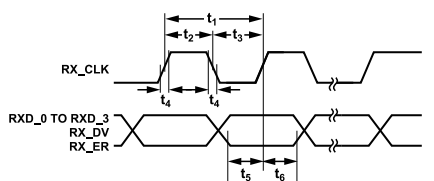

Figure 6. MII Receive Timing
Table 8. MII 10BASE-Te Receive Timing (See Figure 6)
**Table 8. MII 10BASE-Te Receive Timing (See Figure 6) (Continued)**